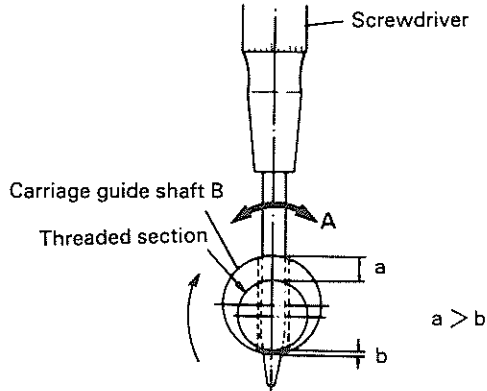
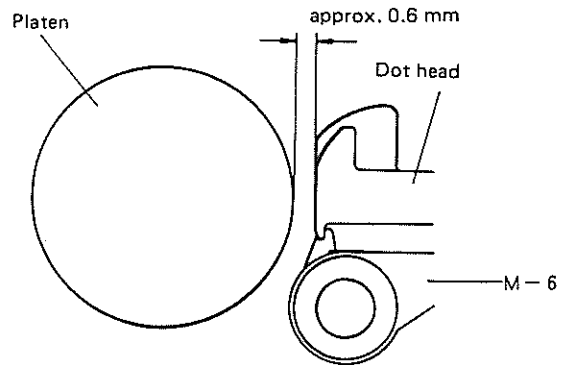

Fig. 4-30. Carriage Guide Shaft Adjustment
Fig. 4-31. Gap Between Platen and Print Head
- Step 4: Rotate carriage guide shaft B in the direction of the arrow as shown in Fig. 4-30 for adjustment. The reference value is 0.6 mm. (See Fig. 4-31)